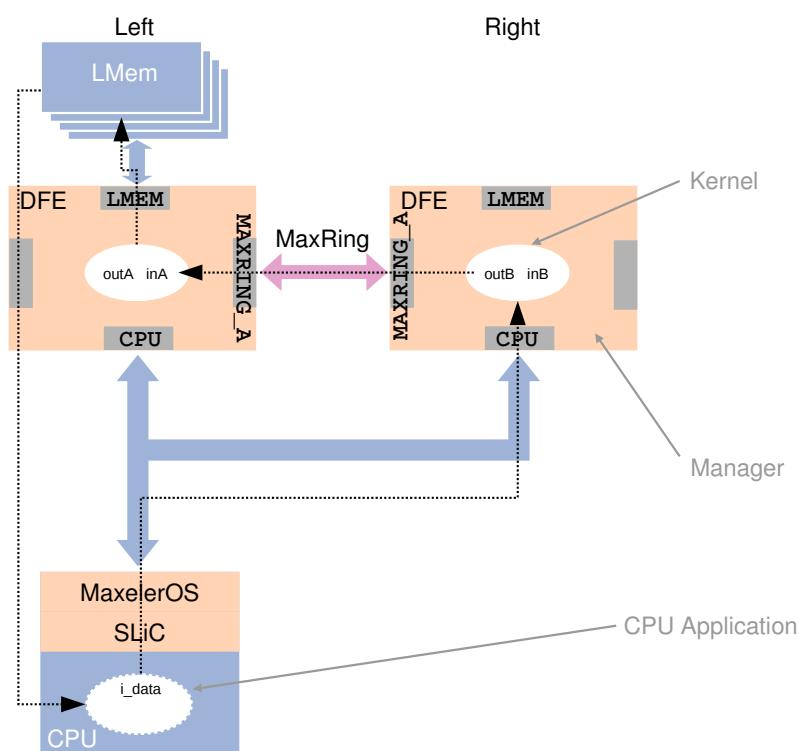

Figure 48: Exercise required data flow from CPU, via MaxRing links, to LMem
*Figure 48* shows the required flow of data through the system.